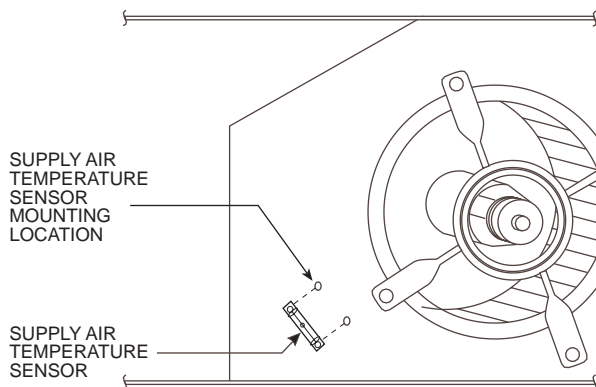

Fig. 36 — Supply-Air Sensor Placement
11. Mount the supply-air temperature sensor to the lower left portion of the indoor blower housing with the two (2) screws provided (see Fig. 36). Connect the violet and pink wires to the corresponding connections on the supply-air temperature sensor. Replace the indoor fan motor access panel.